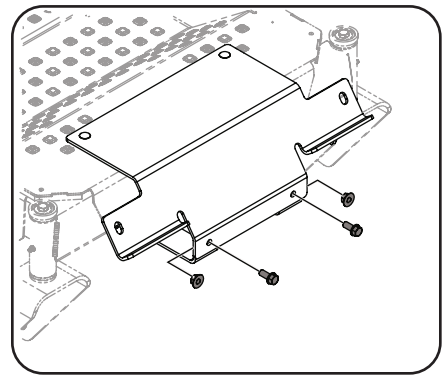

Figure 4-21
5. Secure the upper and lower bracket with 2 bolts (710-04482) and 2 nuts (712-04217). See Figure 4-21.